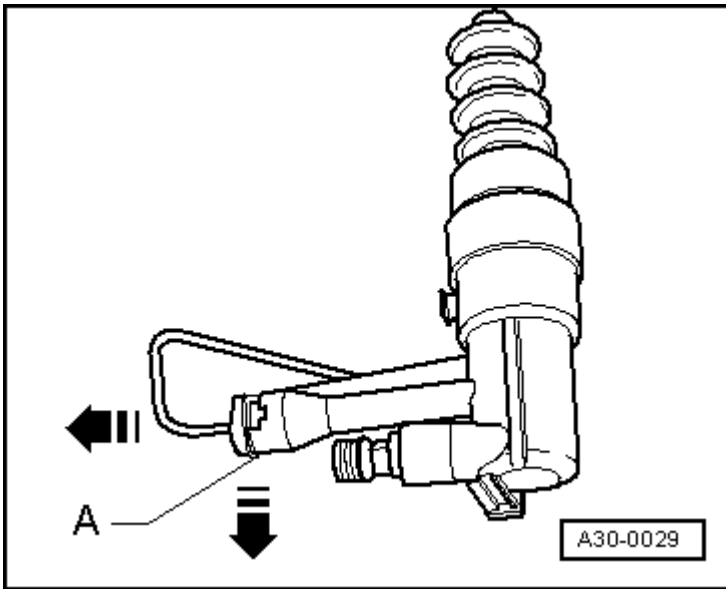

Fig. 4: Connecting Pipe To Slave Cylinder
- Disconnecting and connecting, refer to **Fig. 4**
- To remove the hose/line assembly, pull it out, refer to **Fig. 4**